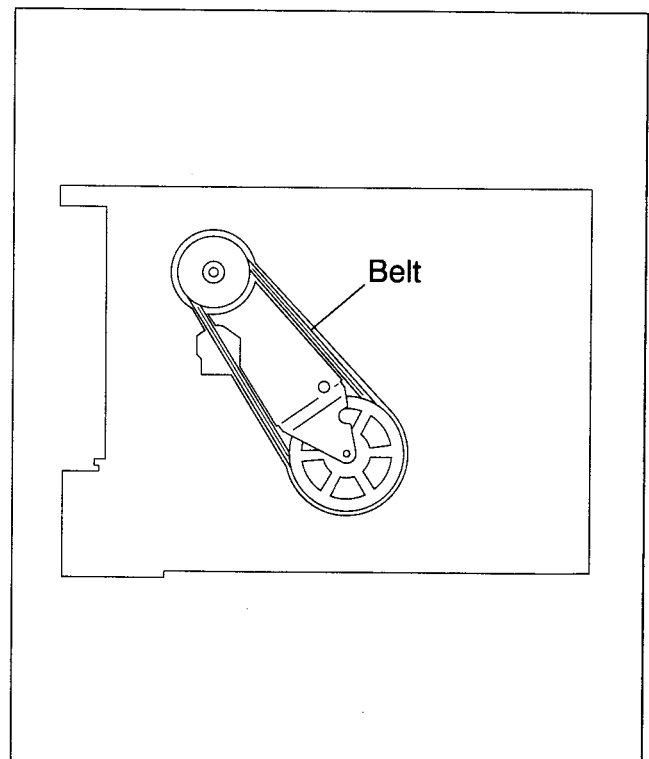

Fig.2-5-10
- (1) Take out 1 slit washer, then remove the lever assembly.
- (2) Disengage the belt (capstan motor) from bottom of mechanism assembly first as indicated in Fig.2-5-10.